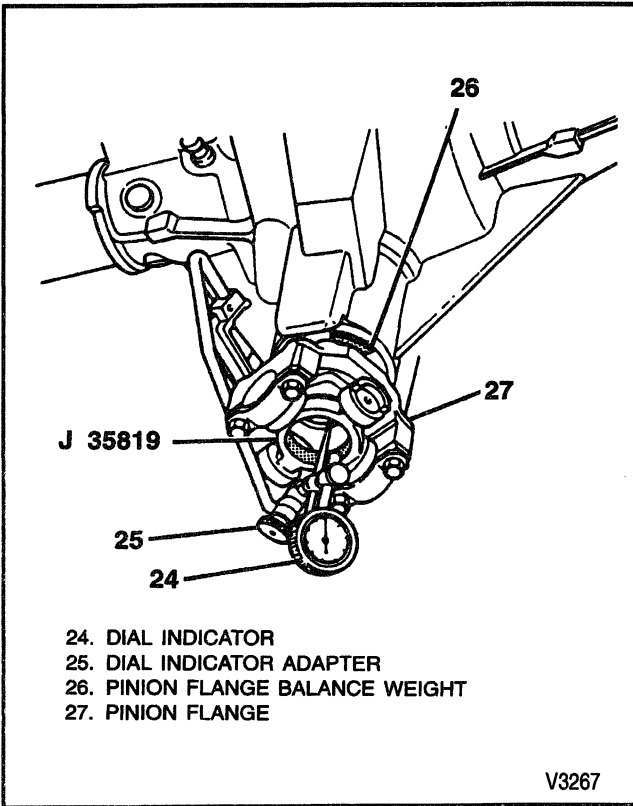

Figure 15—Pinion Flange Runout
4. With the transmission in neutral, hand rotate the axle pinion flange or the transmission yoke and take the necessary dial indicator readings on the propeller shaft. Record the readings. If the runout is over specification at one or more check points, rotate the propeller shaft 180 degrees at the pinion flange or companion flange. Reinstall and check the runout. If the runout is still over specification check the pinion or companion flange runout. Use a dial indicator and J 35819 Companion Flange Runout Gage before replacing the propeller shaft (Refer to Figure 15). For models having a two-piece driveline, measure the rear propeller shaft runout first (Figure 14). Reference mark the position of the rear propeller shaft yoke to the pinion flange or companion flange, then remove the rear propeller shaft. Measure the front propeller
5. Check the runout on the replacement propeller shaft. If the new propeller shaft runout is over specification, double-check the pinion flange runout (Figure 15).
- Before replacing the propeller shaft double-check the pinion flange runout (Figure 15).